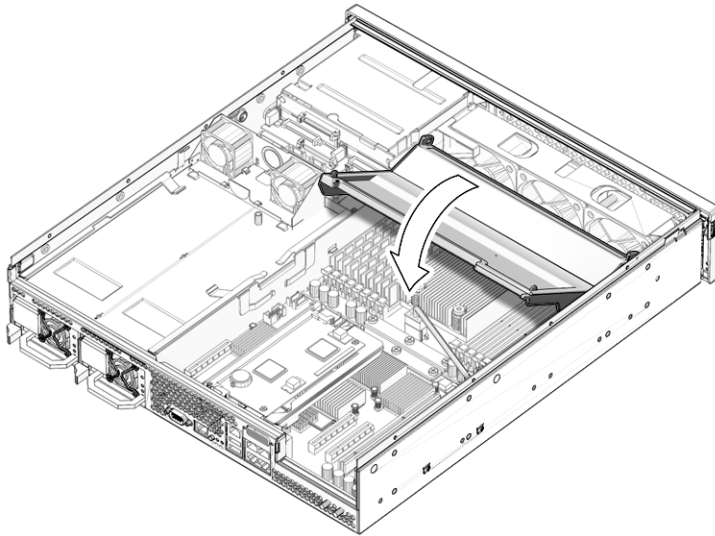

FIGURE 3-48 Lowering the DIMM/CPU Duct
3. Lower the duct down to the horizontal position (FIGURE 3-48).